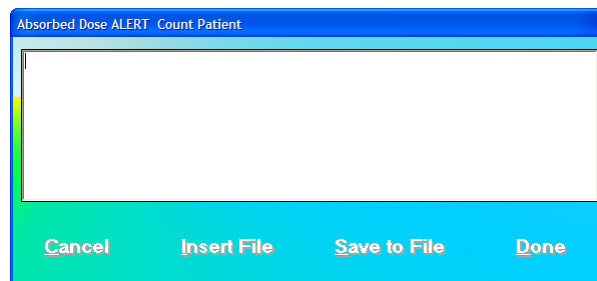

Figure 9-26
- To add comments to the report, click the **Comment** button. The Comment window will appear as shown in Figure 9-26. Refer to CHAPTER 3: GENERAL OPERATING INSTRUCTIONS; SECTION: ADD COMMENTS SCREEN.